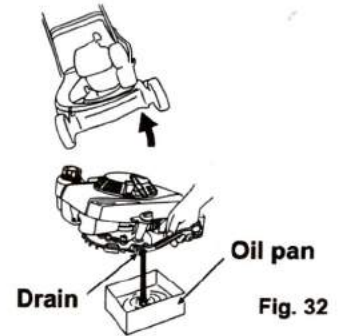

Fig. 32
2. Drain the engine oil from the drain port. (See Fig. 32)